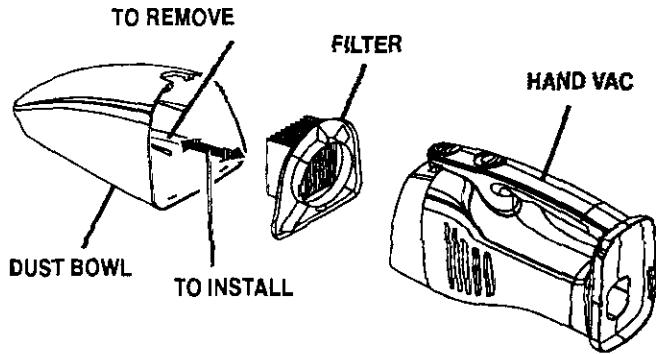

Fig. 6
- Remove the filter by simply pulling it out of the dust bowl. See Figure 6.
- Place the filter into the dust bowl. See Figure 6.